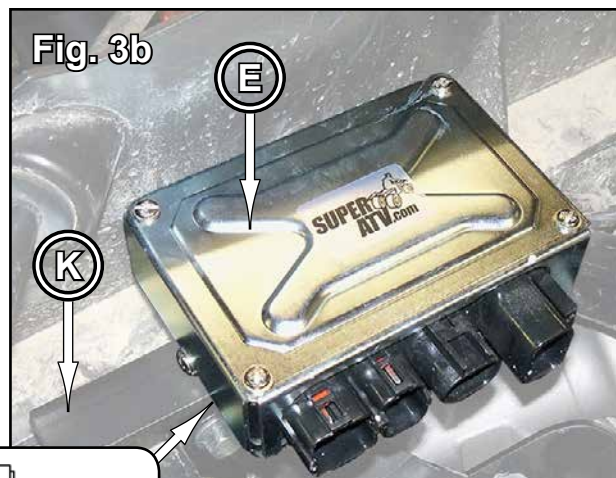

Fig. 3b
- Install ECU (E) to ECU Mount (K) with M6-1.0 x 15mm Lg. HHCS. See Fig. 3b.